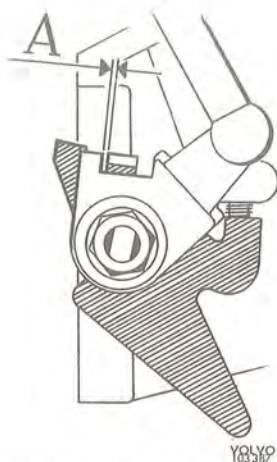

Fig. 2-64. Adjusting the control
5. Adjust the link rods. With the control against its stop on the manifold bracket, the link rods should be adjusted so that there is a clearance of about .1 mm (.004") between the lever and the flange of the primary throttle spindle. (See Fig. 2-64).